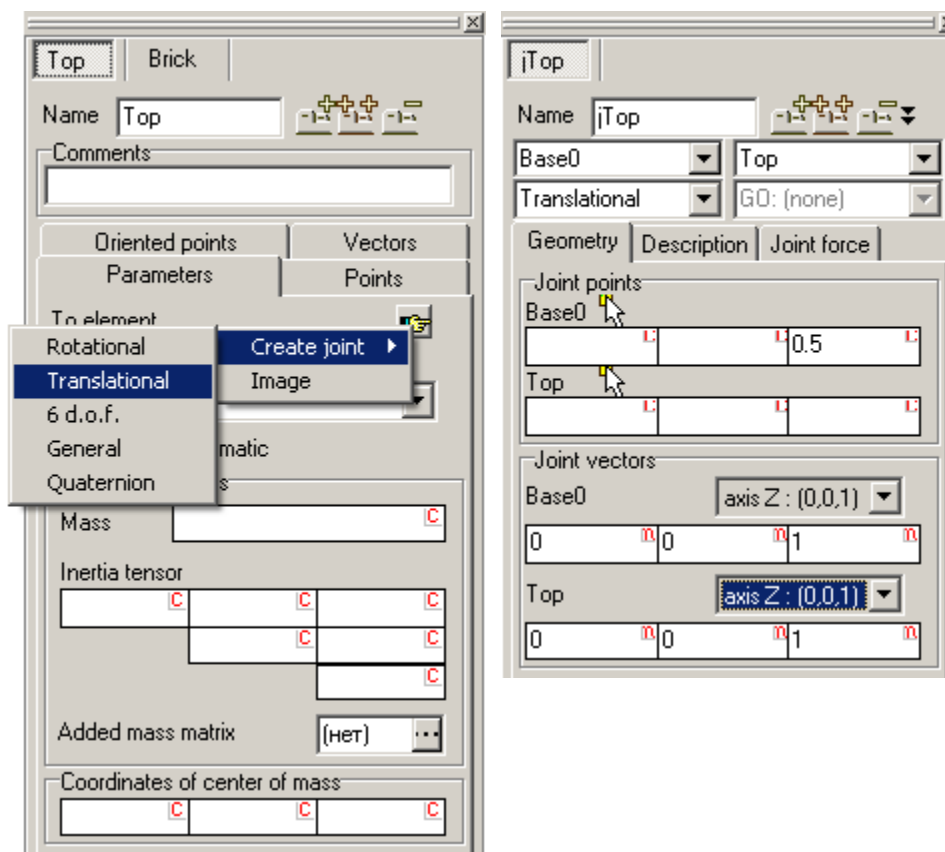

Figure 2.2. Creating translational joint
2. Click the  button. Select **Create joint** and in the drop-down list select **Translational**, see the Fig. 2.2, left. The new joint of this type is created. Now you can see parameters of the joint.
3. Select the **Geometry** tab and set joint parameters as it is shown in the Fig. 2.2, right.